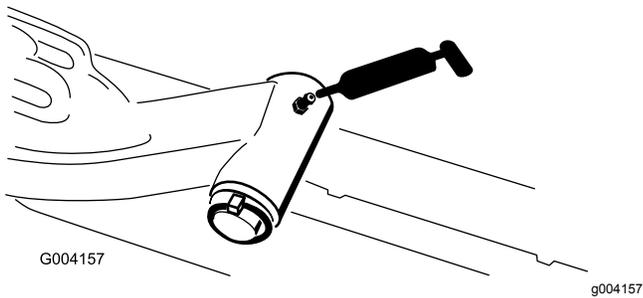

Figure 78
- Lift-arm-pivot shaft (1 each) (Figure 78)